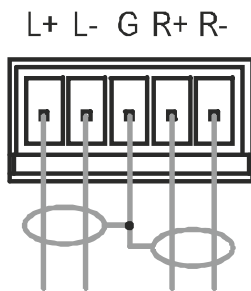

Figure 6: Balanced Stereo Audio Connection
- A balanced stereo audio connection, see Figure 6